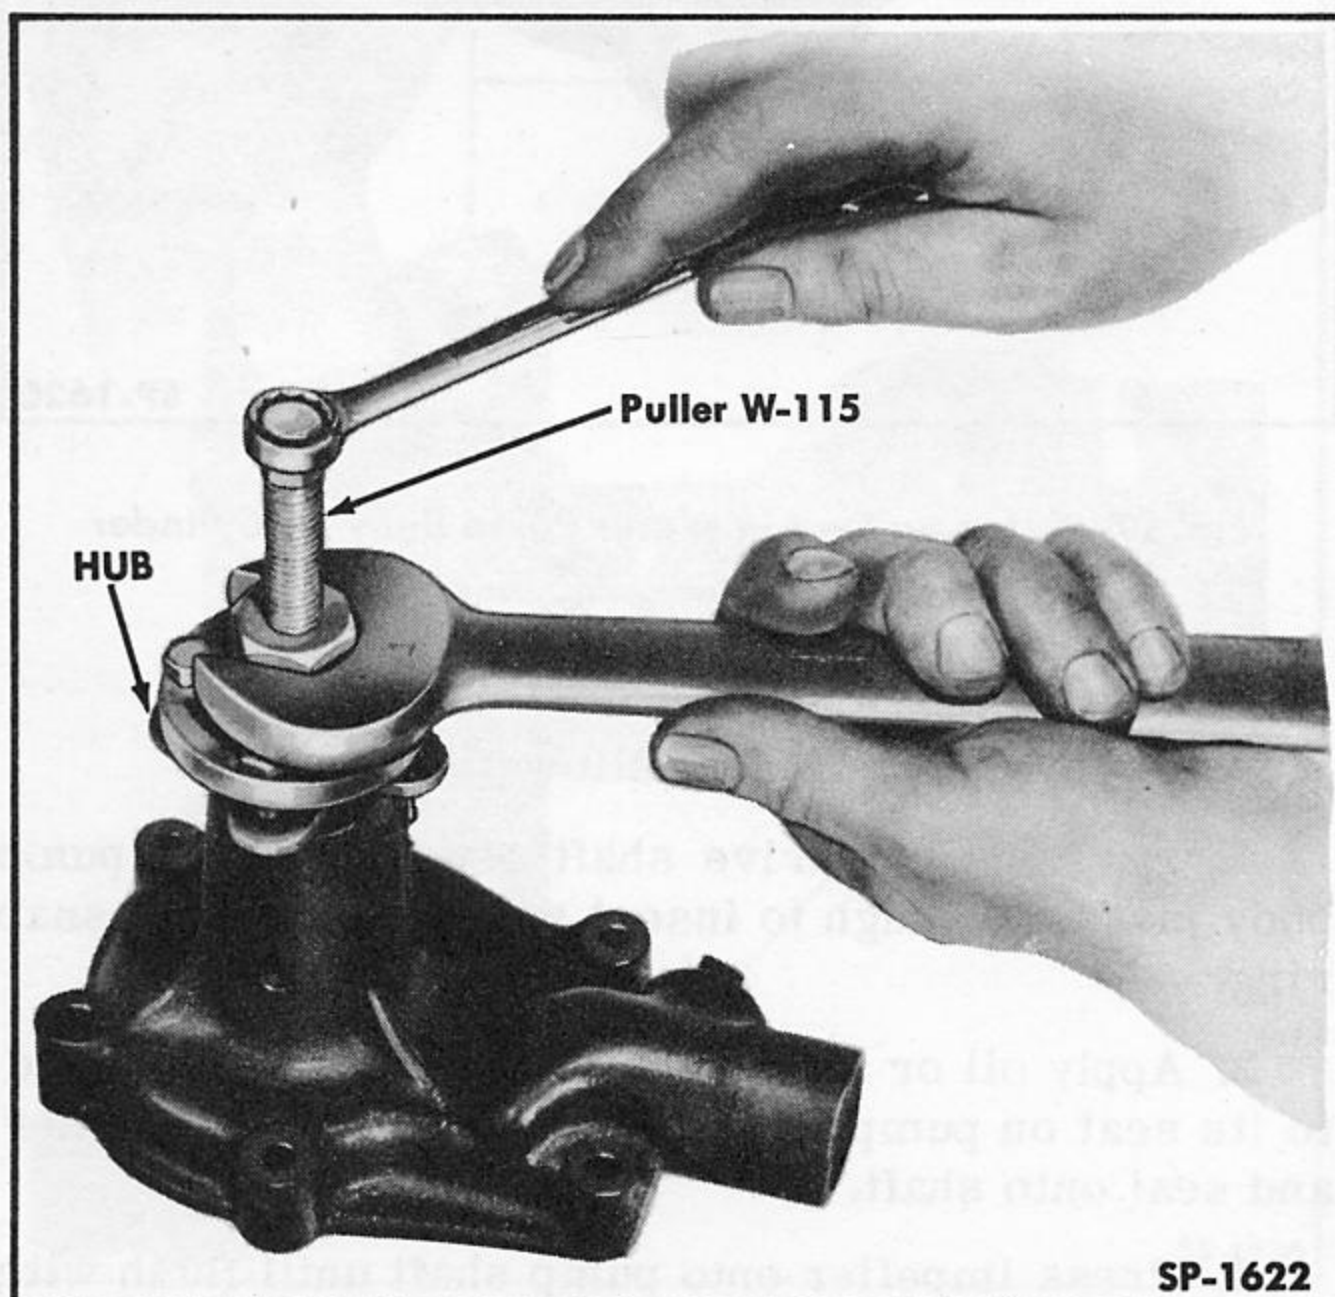

Fig. 99—Removing Water Pump Fan Hub (6 Cylinder Shown)
4. Remove hub from shaft, using Water Pump Fan Hub Puller W-115 (Fig. 99).